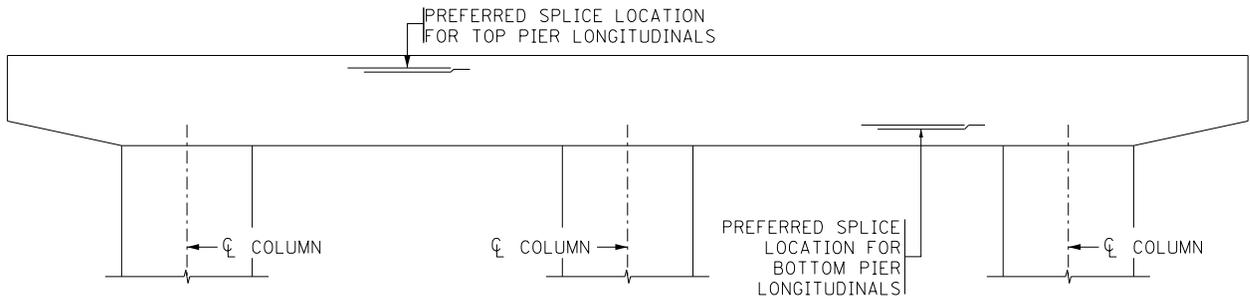

Figure 7
- Do not place splices at locations of maximum moment. For cap top bars, do not splice over columns. If cap bottom bars are spliced, do not splice at the midpoint between columns or in columns; place splice adjacent to column. Avoid placing splices where bearing anchor rods are located. (See Figure 7.)